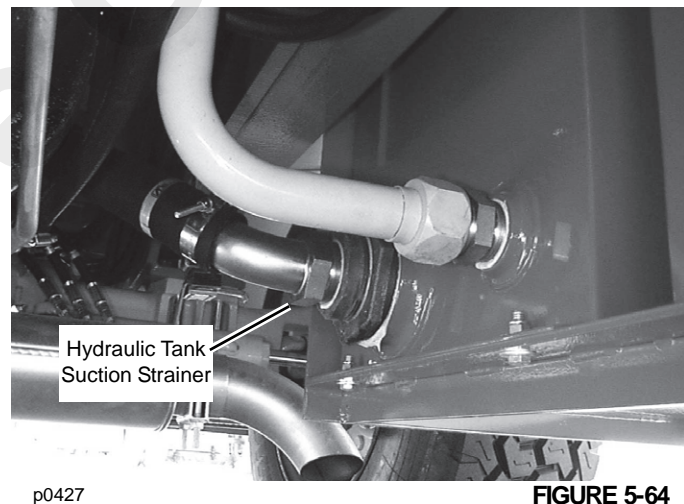

FIGURE 5-64
6. When the tank is empty, disconnect the two hydraulic lines from the rear of the hydraulic oil tank Figure 5-64. Remove the suction strainer from the suction port and clean it in a suitable solvent.